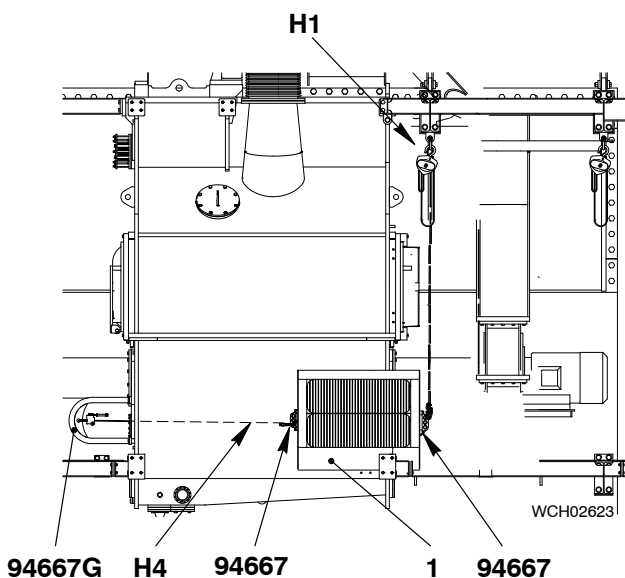

Fig. 13
- 8) Operate the manual ratchet (H4, Fig. 13) to pull the water separator (1) as shown. At the same time, operate the chain block (H1) to hold the weight of the water separator.
- 9) Remove the chain block (H1) from the tool (94667) on the front of the water separator (1).
- 10) Remove the tool (94667) from the front of the water separator (1).